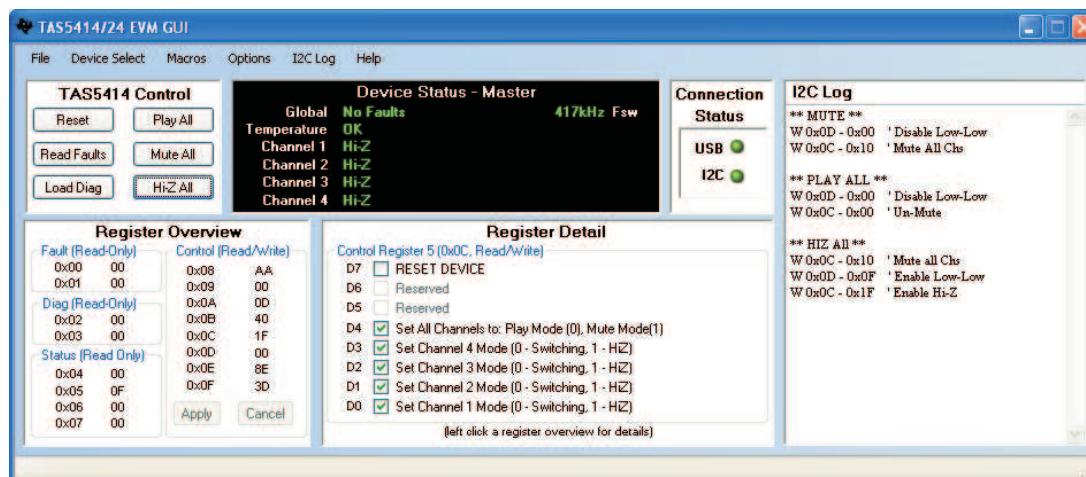

Figure 1-5. Various Panels of Main Window
**Device Panel Title:** The title at the top of the Device Status Panel shows with which device the GUI is set to communicate. The four options are: Master (shown in Figure 1-5), Slave1, Slave 2, and Slave 3. This is changed in the menu item *Device Select*